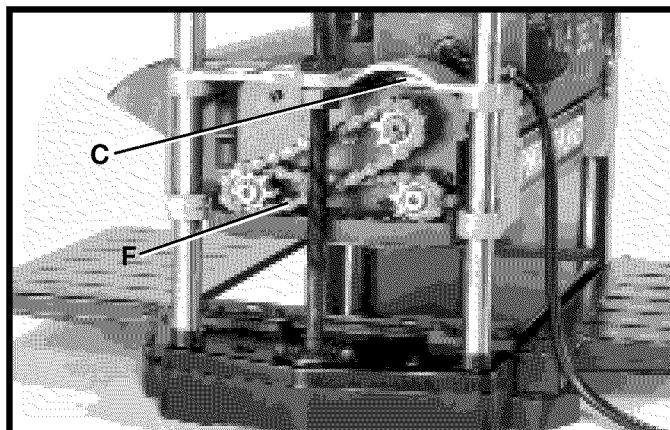

Fig. 29
3. Place a light coat of E.P. multi-purpose grease on the teeth of the large gear (C) Fig. 29, and a light coat of spray lubricant to chains (F). Replace the side cover.